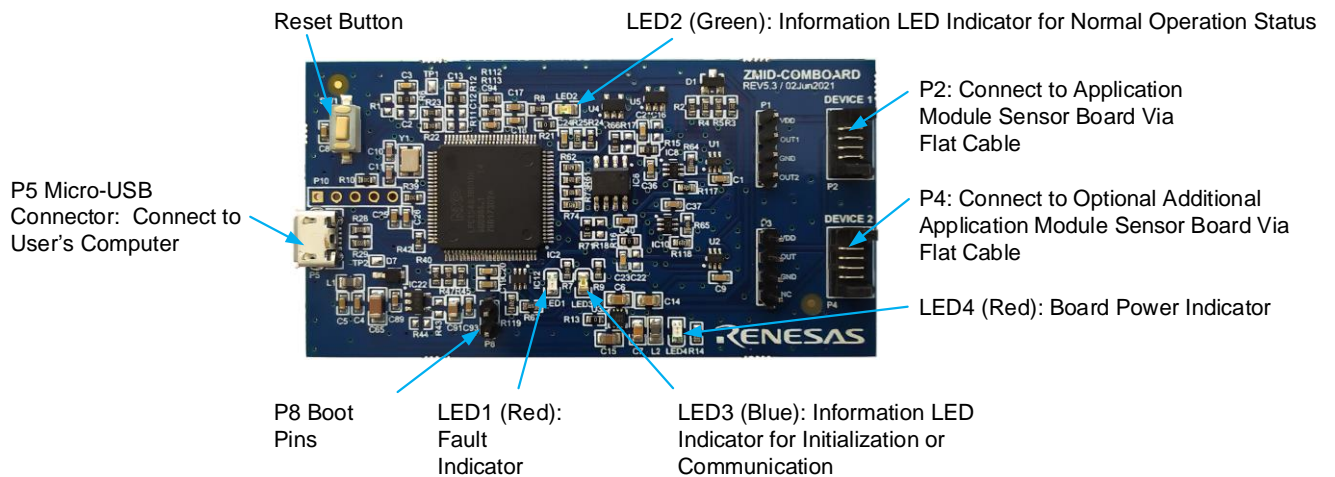
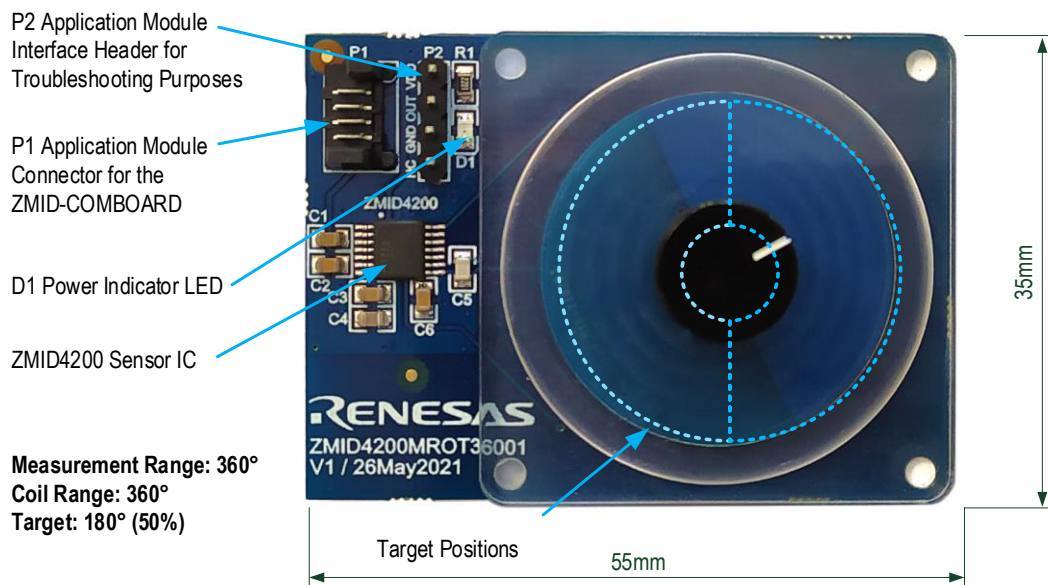
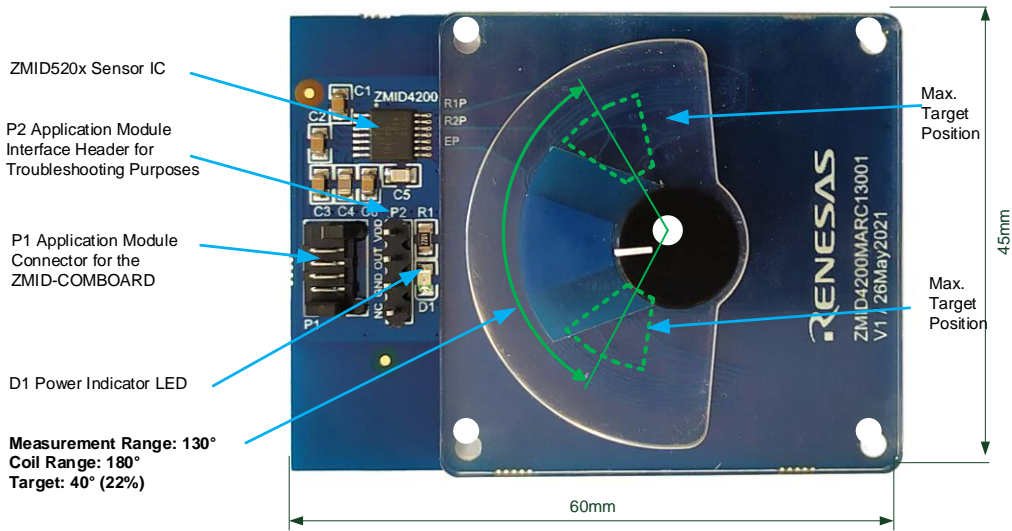
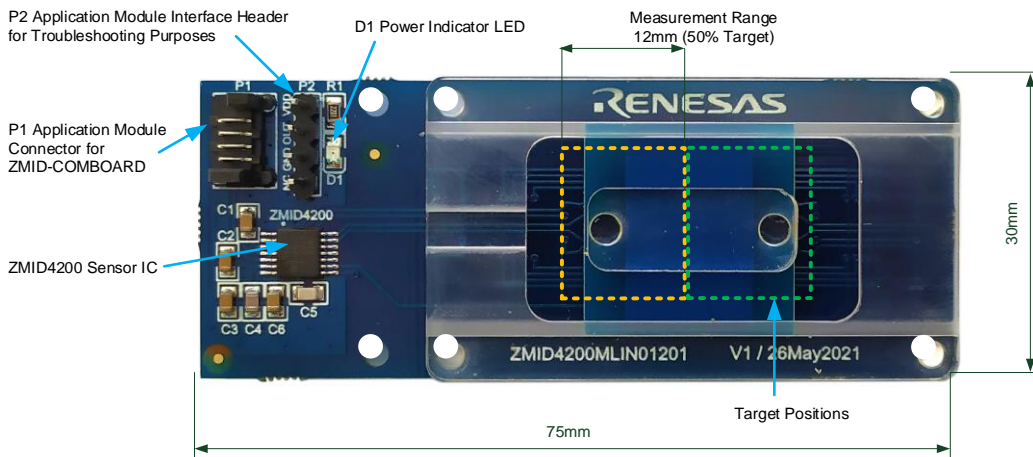

Figure 3. ZMID-COMBOARD – Overview
Figure 4. ZMID4200 Rotary 360° Application Module – Overview
Figure 5. ZMID4200 Arc 130° Application Module – Overview
Figure 6. ZMID4200 Linear Application Module – Overview
Note: See Figure 3 for the components referenced in this table.
Figure 4, Figure 5, and Figure 6 give an overview of the different ZMID4200 Application Module Sensor Boards before installation of the target holder for each type of board. The three boards have the same connectors and components given in Table 2 and identified in the figures.
5. The indicator LED2 on the ZMID-COMBOARD will light (see Figure 3) if conditions are normal. This indicates that the board is ready to communicate with the *ZMID4200 EVKIT Application Software*. The D1 LED on the *ZMID4200 Application Module* (see Figure 4, Figure 5, or Figure 6) also lights when the board is powered on.